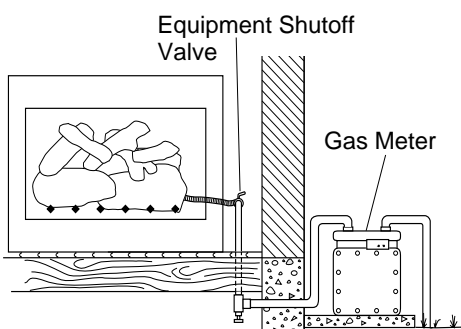

Figure 7 - Checking Gas Joints
1. Close equipment shutoff valve (see Figure 7).
3. Check all joints from gas meter to equipment shutoff valve (see Figure 7). Apply mixture of liquid soap and water to gas joints. Bubbles forming show a leak.